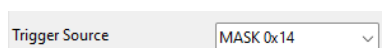

Fig. 3.53: Example of a Trigger Source Mask Setting.
- **MASK**. The trigger signal is an ORed mask of the trigger sources listed above. The mask can be set by selecting the MASK option and writing the mask hexadecimal value next to the MASK option in the combo box, as shown in **Fig. 3.53**. In the example, the T1-IN and T0-IN options have been chosen as trigger source in OR-logic. The Trigger Source Register bits are defined as specified in **Tab. 3.1**.
- **MASK.** The Veto signal is an ORed mask of the Veto signals listed. The mask can be set by selecting the MASK option and writing the mask hexadecimal value next to the MASK option in the combo box, as shown in the Trigger Source Mask example of Fig. 3.53.
- *MASK*. The T0-OUT signal is an ORed mask of the T0-OUT signals listed. The mask can be set by selecting the MASK option and writing the mask hexadecimal value next to the MASK option in the combo box, as shown in the Trigger Source Mask example of **Fig. 3.53**.